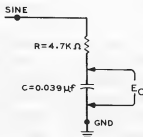

Figure 2-74
22. In this step you will show how the capacitive reactance varies with frequency. Wire the circuit shown in Figure 2-74. You will use the sine-wave signal generated by the internal signal generator circuit on your Electronic Design Experimenter. Connect the SINE and GND outputs of the generator to the RC circuit you wired on the breadboarding socket. Set the range switch on the generator to the LOW position. Turn the frequency dial fully counterclockwise.